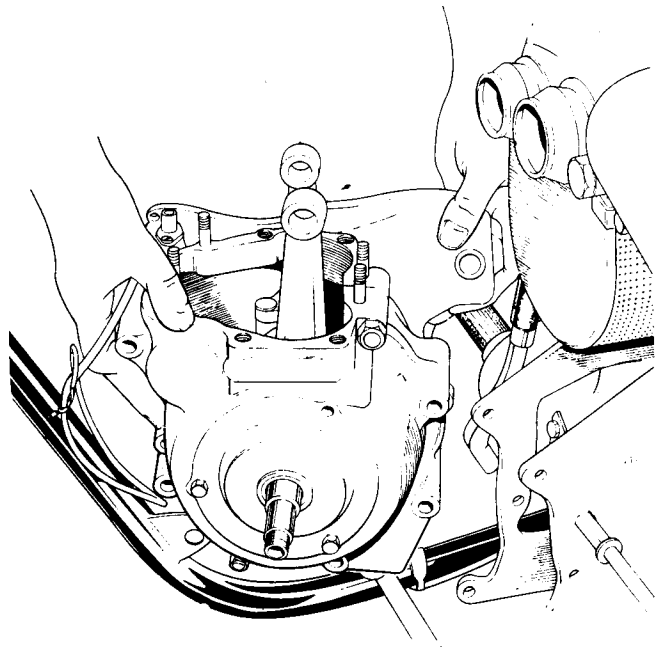

Fig. C18 Removal of the crankcase assembly from mounting plates
- 12 The crankcase assembly is now free to be removed from the mounting plates as shown in Fig. C18. Further dismantling of the engine can proceed more conveniently on the bench after removal.